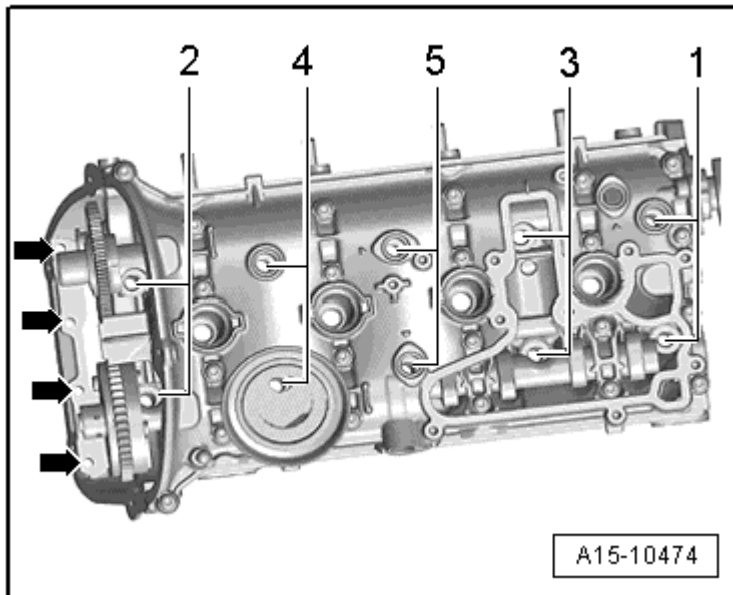

Fig. 3: Cylinder Head Loosening Sequence
- Follow the sequence when loosening, refer to **Fig. 3**.